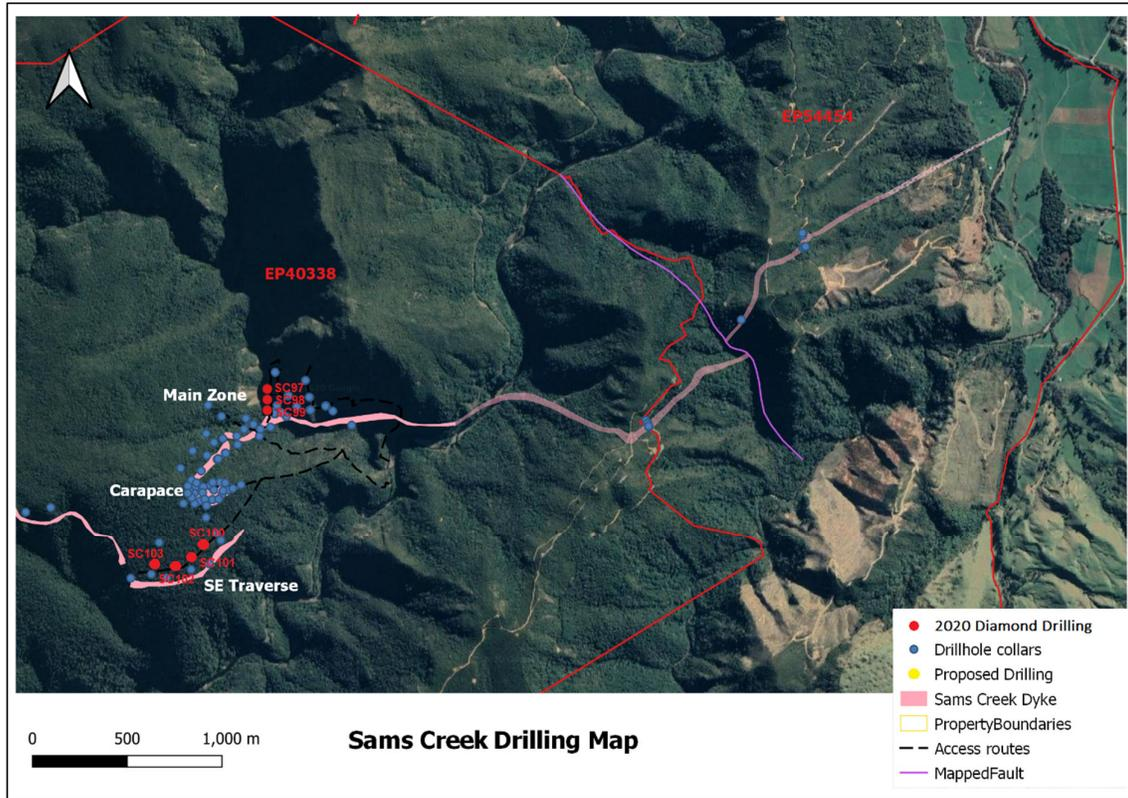

Figure 1: Sams Creek Dyke, Drill Hole Location
- Sams Creek hosts significant exploration upside with only 1km of the 7km known dyke extent systematically drilled to date (Figure 1)
Gold and Base Metals explorer **Auris Minerals Limited** (“Auris” or “the Company”) (ASX: AUR) is pleased to announce high grade gold results have been received from diamond drilling into the SE Traverse prospect at the Sams Creek Gold Project in New Zealand (Figure 1 and 2). The drilling program was funded by Sandfire Resources Limited (“Sandfire”; ASX: SFR).